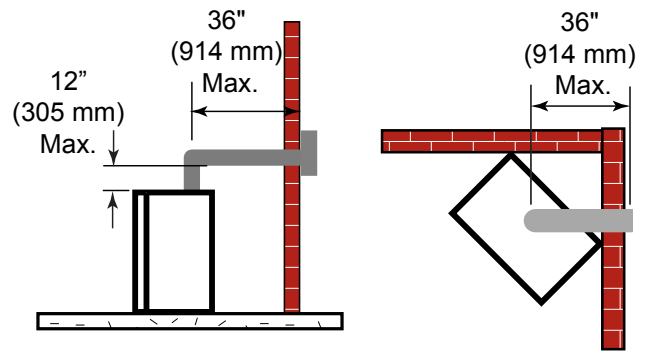

Figure 15 - Maximum Horizontal Run with No Rise
- A minimum of 12" is required before a 90° elbow. If a 90° elbow is fitted directly after 12" vertical section mounted to the top of the fireplace, the maximum horizontal vent run before the termination or a vertical rise is 36" (914 mm). *Figure 15*